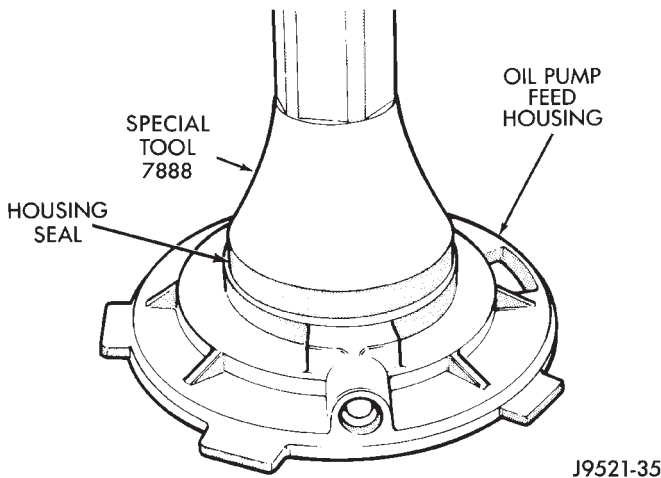

Fig. 54 Oil Pump Seal Installation
(17) Remove seal from oil pump housing with a suitable pry tool.
(18) Install new seal in oil pump housing with Installer 7888 (Fig. 54).